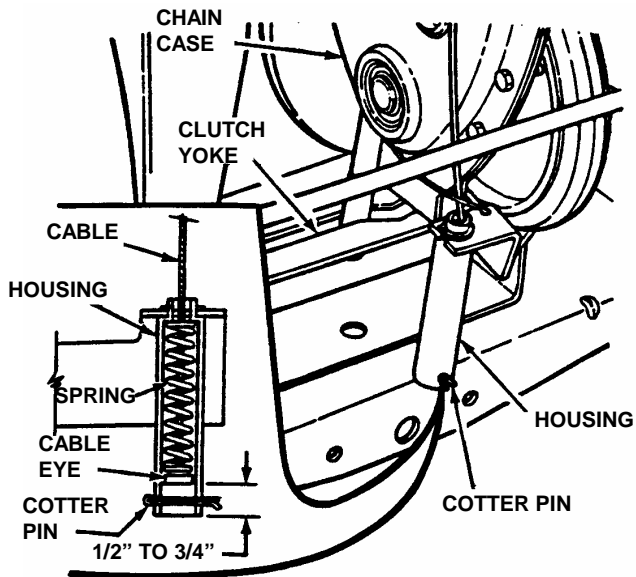

FIGURE 4.7
- 3.5.5. Clutch Yoke (See Figure 4.7).
5. Measure the distance between end of clutch/brake cable and bottom of housing. Measurement should be no less than 1/2" and no greater than 3/4". See inset of Figure 4.7.
7. Adjust cable up or down using the jam-nuts to obtain a distance of 1/2" to 3/4" between end of clutch/brake cable (adjustment shown in inset of Figure 4.7) and bottom of housing. See Figure 4.7.
5. Move transmission shift lever to the neutral (N) position.
6. Rotate clutch yoke (clutch yoke shown in Figure 4.7) out with your hand and work belt between drive disc and rubber driven disc.